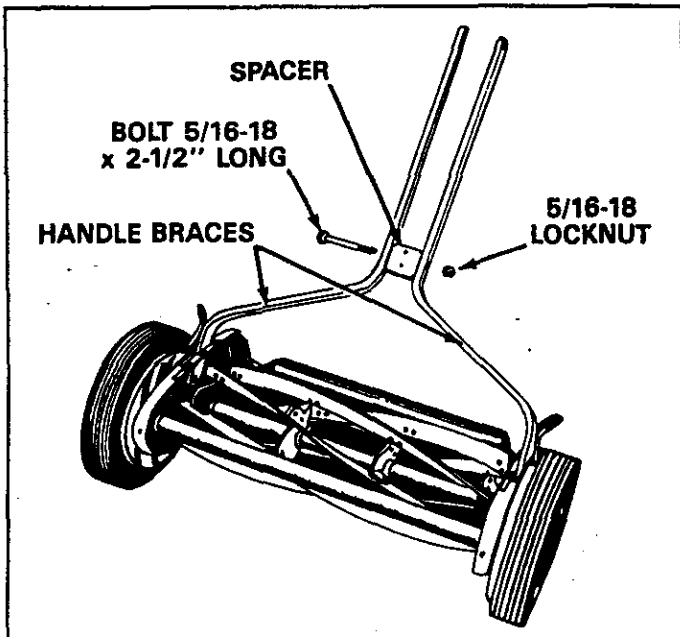
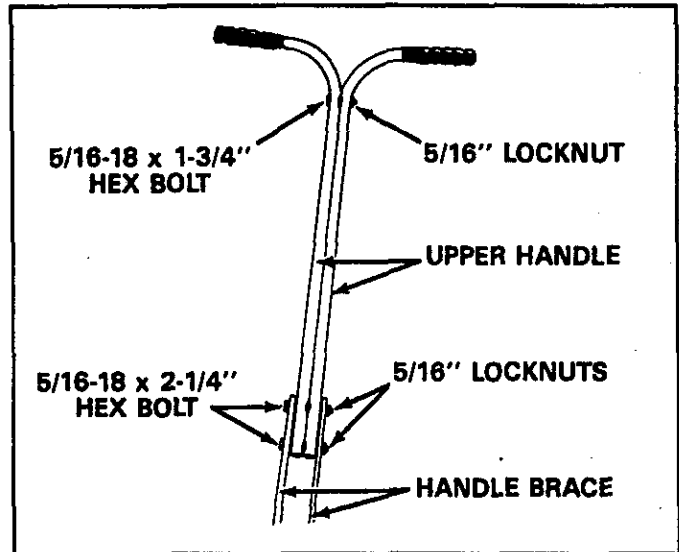

FIGURE 2
FIGURE 3
- Assemble the spacer between the two braces using a 5/16" x 2-1/2" hex bolt and a 5/16" locknut. Tighten only finger tight at this time. See figure 2.
- Attach the two upper handles to the handle braces with two 5/16" x 2-1/4" hex bolts and 5/16" hex nuts. Tighten only finger tight at this time. See figure 3.
- Fasten the upper handles together at the top with a 5/16" x 1-3/4" hex bolt and a 5/16" locknut as shown in figure 3. Tighten all four bolts and nuts assembled in figures 2 and 3.